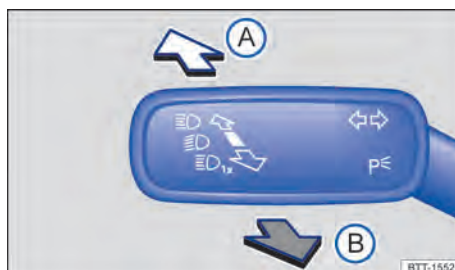

Fig. 78 On the left-hand side of the steering column: direction indicator and high beam lever.
2. Push the lever forwards from the centre position → Fig. 78.
1. Pull the lever back from the centre position → Fig. 78.
1. Pull the lever back from the centre position and hold → Fig. 78.